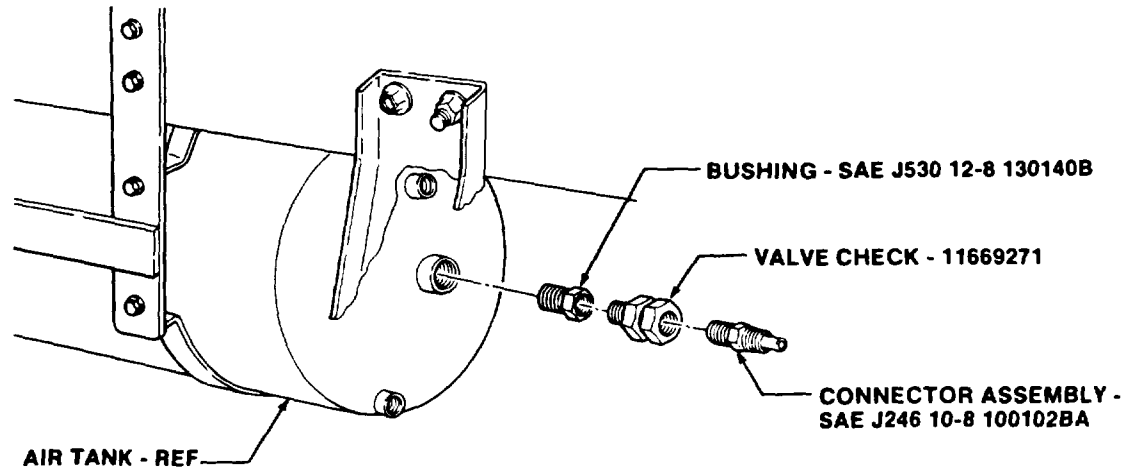

FIGURE 12
(5) Install SAE J530 12-8130140B bushing in forward end of air tank as shown in figure 12.
(6) Install 11669271 check valve in bushing on air tank as shown in figure 12.
(7) Install SAE J24610-8 100102BA connector assembly in check valve on air tank as shown in figure 12. Retain sleeve and nut for use in step 9.